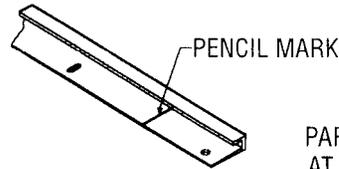
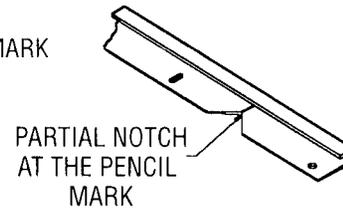

Figure 6
Figure 7
1. Begin by making a mark on the wall leg where the corner is to be located (figure 6). Make a partial notch at the pencil mark (figure 7). This partial notch will prevent fullness when bending to form a corner.